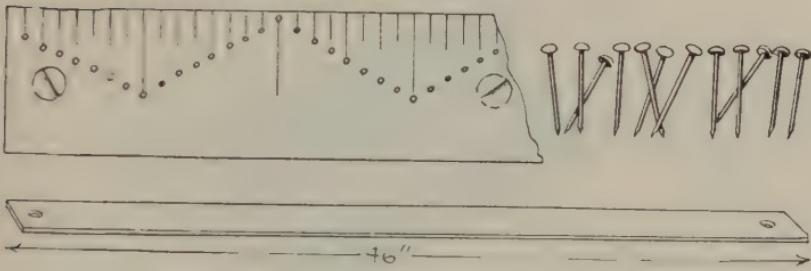

FIG. 95—DIAGRAM OF STRAIGHT EDGE AND RULE STRIPS DRILLED FOR SCREWS AND PINS
6. Buy one dozen brass escutcheon pins small enough to fit in these holes. (Fig. 95.)
7. Buy a steel straightedge $\frac{3}{2}$ " to 1" thick, 46" long, 2" to 3" wide. (Fig. 95.)